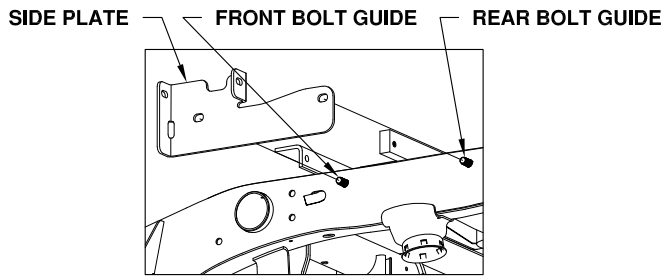
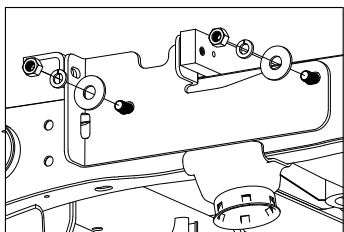
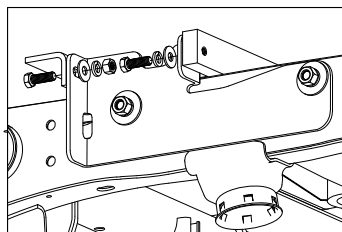

Figure C9: View from outside of Driver Side Frame
Figure C10: View from outside of Driver Side Frame
Figure C11: View from outside of Driver Side Frame
3. **Install the side plates.** Place each side plate over the  $\frac{5}{8}$ " bolts held in place by the bolt guides, see Figure C9. Attach the side plates to the frame with a flat washer, lock washer, and nut, see Figure C10. Attach the side plates to the front and rear cross members with  $\frac{1}{2}$ " hardware as shown in Figure C11. Do not tighten the  $\frac{5}{8}$ " or  $\frac{1}{2}$ " hardware at this time.